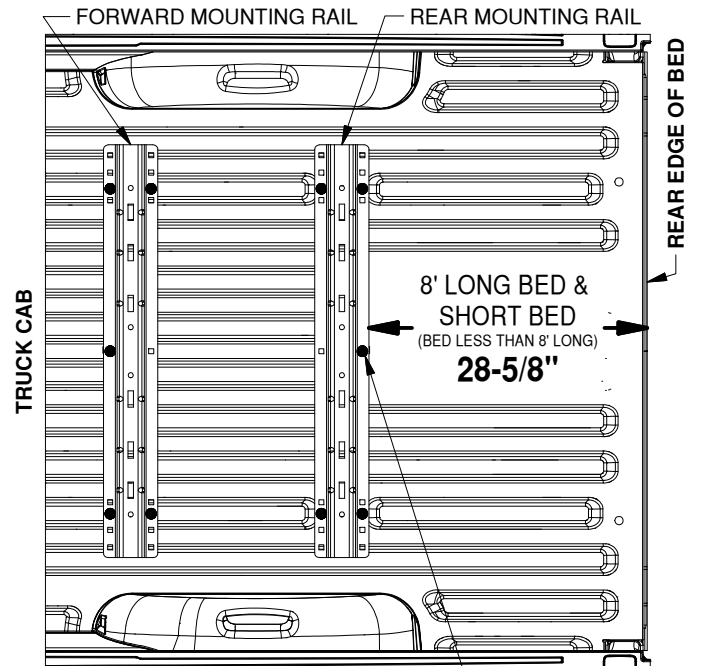

Figure B1: View over bed, showing drill locations for the forward and rear rails.
1. **Layout the rear mounting rail.** Place a mounting rail onto the bed of the truck. Hook a tape measure over the rear edge of the bed (not on any part of the tailgate), measure the location for the mounting rail as shown in Figure B1. Next, center the mounting rail in the bed by measuring the distance on either side from the edge of the rail to the side of wheel well. The rail will be centered when both measurements on either side of the rail are the same.
2. **Mark hole locations.** While carefully ensuring the mounting rail does not move, use a center punch tool to mark the 5 drill locations on the rear rail. See Figure B1 for hole marking locations for this installation (forward rails will install in a later step). Once all 5 rear rail locations are clearly marked, move the bed rail out of the way and drill each location with an 1/8" drill bit.
2. **Drill forward mounting holes.** Using the same methods as used for the rear mounting rail mark, drill, check, and enlarge the holes for the forward mounting rail. Refer to "ENLARGE HOLES & INSTALL SIDE PLATES" section, Steps 1 through 2, on previous page. Notice that the hole locations are slightly different than the rear rail, see Figure B1 (on the second page).